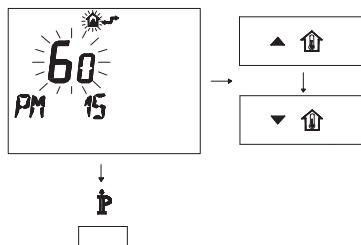

Fig. 8.4
- Modify the programmed SET by acting on buttons  or  until a **setting of 60** is displayed, wait for the number programmed to flash (Fig. 8.4).